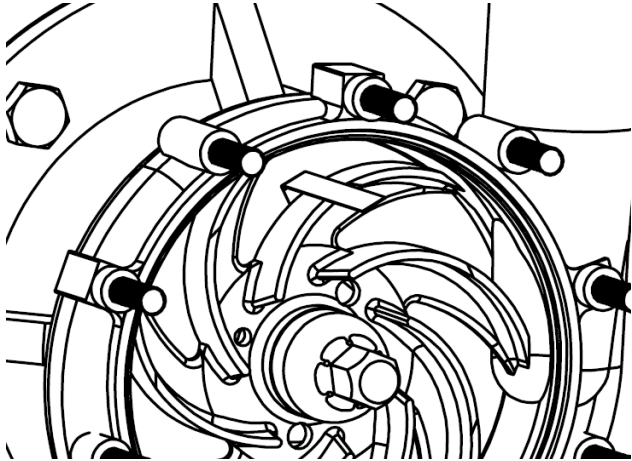

Figure 21
13. Slide a feeler gauge between the impeller and the casing to ensure that the clearance is still set from the factory (feeler gauge thickness should be 0.04”) as seen in figure 21.